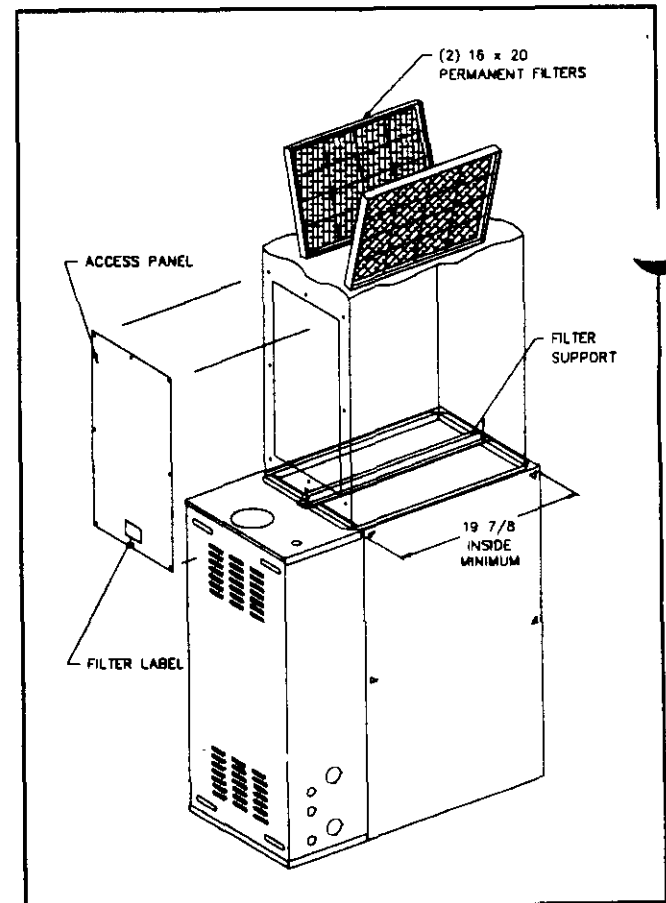

Figure 24. Downflow Filter Application
In downflow position, return air duct must be a minimum 19-7/8 inch inside depth. See Figure 24.
For downflow installations, install filter support in return air plenum as shown in Figure 24 or use return air filter grille. Downflow Filter Kit which includes filters (2) and support is available from manufacturer.